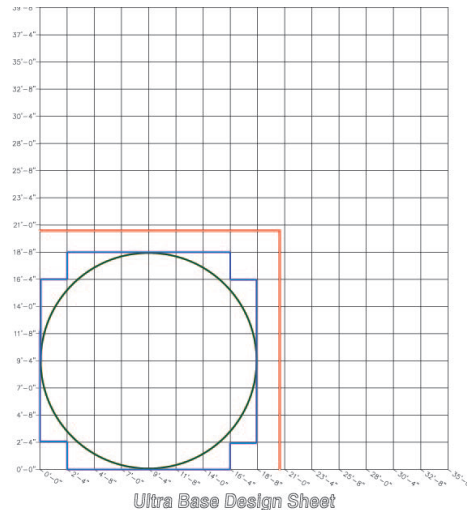

Figure 3.2
- Square off your shape to nearest full box. (Figure 3.2).